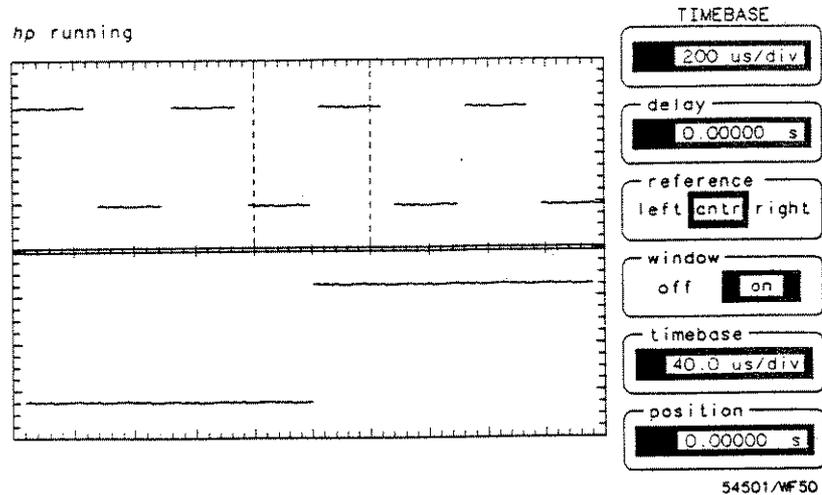

Figure 4-3. Input Signal with Window Turned On
- Set the window timebase to 40 μ s/div (see Figure 4-3).